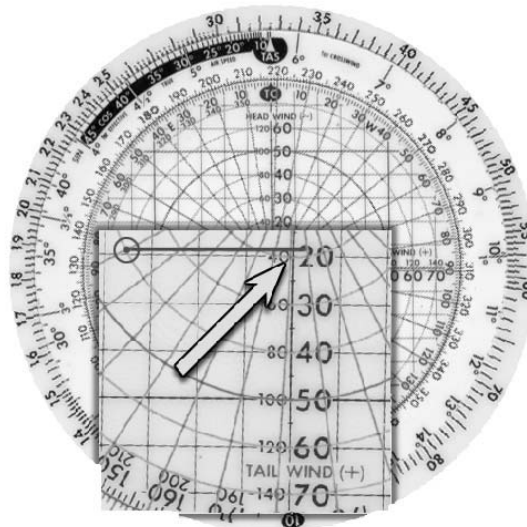

Figure 4.5-16 Preflight Wind Calculation 5
- Determine the HW/TW component in the same manner as step 5 (draw a horizontal line) and add or subtract this value to the TAS as appropriate to calculate the GS (Figure 4.5-16).